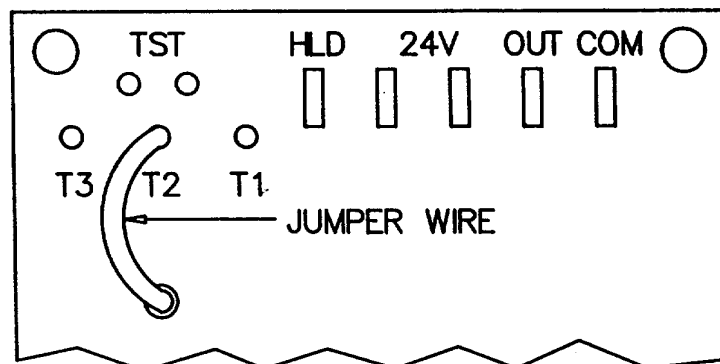

FIGURE 3
3. operates in conjunction with an external sensor located at a "cold" spot on the outdoor coil. The control operates on a "Time/Temp" to initiate and "Temp" to terminate the cycle. The control will initiate a defrost cycle every 60 minutes (set by the factory) if the coil temperature at the sensor is approximately 35°F or less. As the coil is being defrosted, its temperature will rise until it reaches approximately 65°F. At this point the sensor will terminate the defrost cycle. The entire process will take between one and three minutes. In areas where the air is generally moisture laden and frost is prevalent, the defrost interval time may be shortened from 60 minutes to 30 minutes by simply moving the jumper wire (see figure 3) from the "T2" pin to the "T1". In the event of a failure of the sensor to open to terminate the defrost, the control has a built-in 10 minute maximum defrost time, after which it will automatically end the defrost cycle.